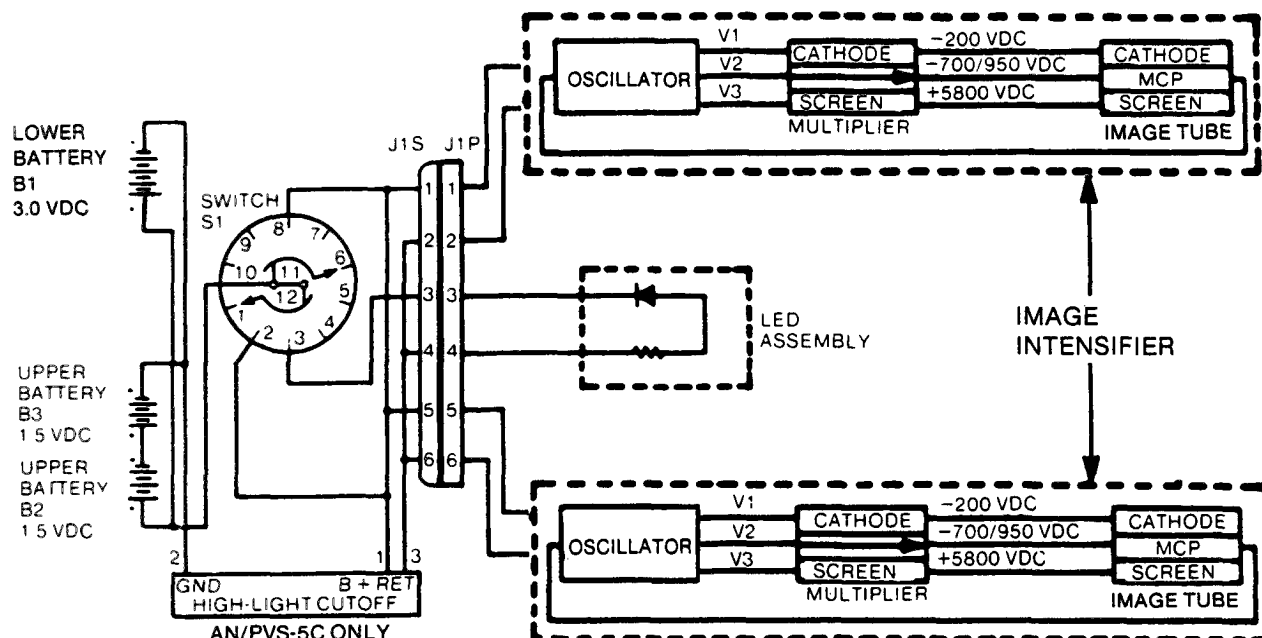

Figure 1-7. Electrical Circuit Block Diagram for AN/PVS-5C.
**(2) GROUND USE.** The AN/PVS-5C is also powered by one 3.0 volt BA-5567/U lithium battery in the lower battery compartment or two 1.5-volt BA-3058/U AA batteries in the two upper battery compartments. When the system is energized, the high-light cutoff circuit will be actuated. If the ambient light conditions increase to a level equal to or greater than 1-foot lambert and 4-foot lamberts for approximately 70 seconds, the circuit will shut off power to the system. Power will not be restored until the rotary switch has been turned to OFF and then back to ON. The high-light cutoff circuit is integrated into the face mask assembly (fig. 1-7).